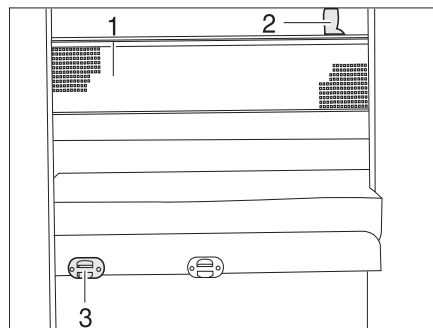

Fig. 157 Safety net
- Attach the access ladder with the rails to the holder (Fig. 157,3) on the panel.
The safety net (Fig. 157,1) is stored as standard between the mattress and slatted frame. Do not use the safety net until the person is already in bed.
- Fasten the retaining straps (Fig. 157,2) to the holders on the ceiling.